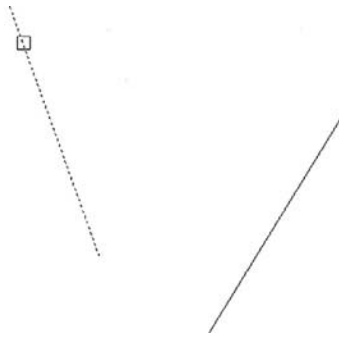

FIGURE 27.5
Step 2. Select the first line, as seen in Figure 27.5.